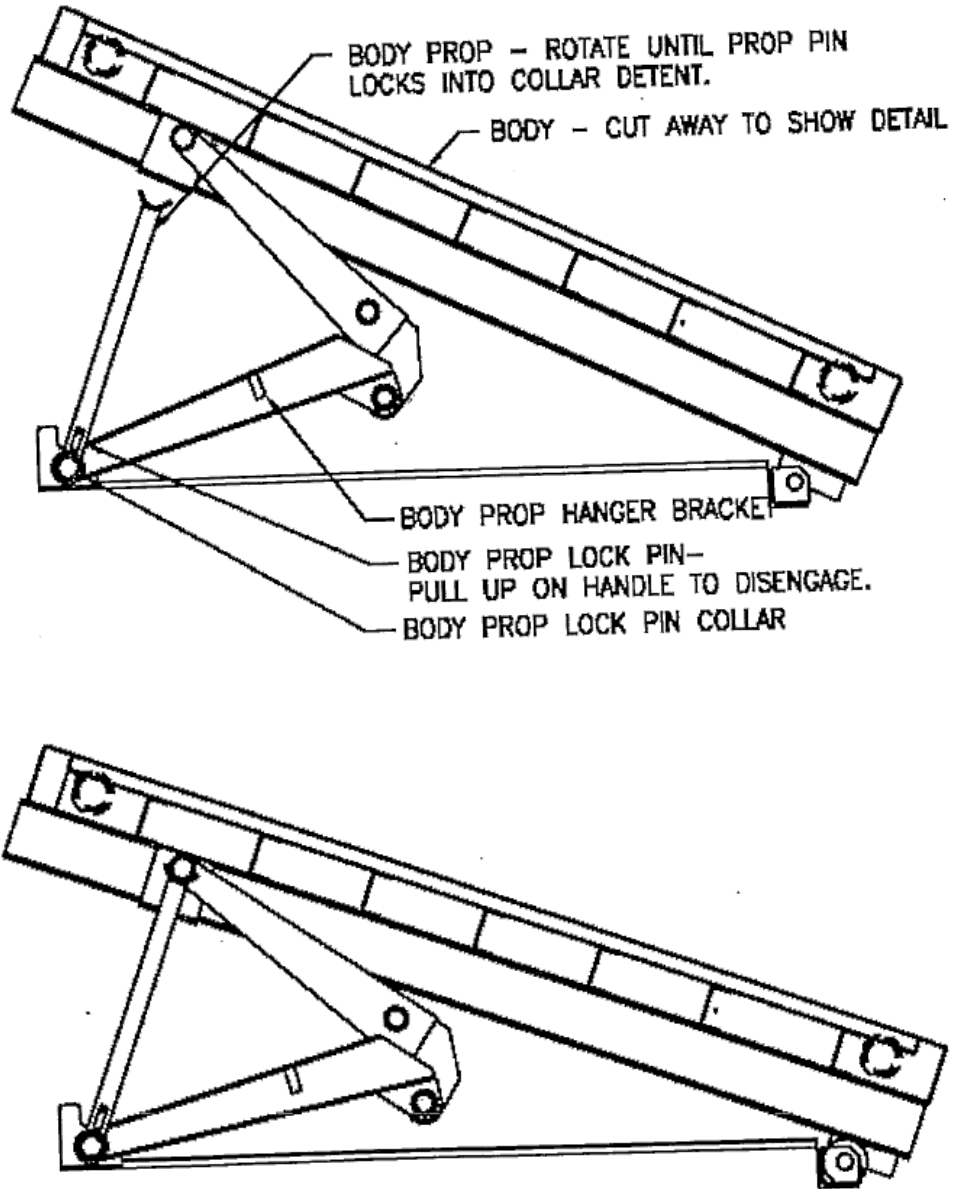

Figure 1
- Figure 1-Body Prop Operating Instructions
C. To operate the safety Body Prop (see figure 1, page 3):